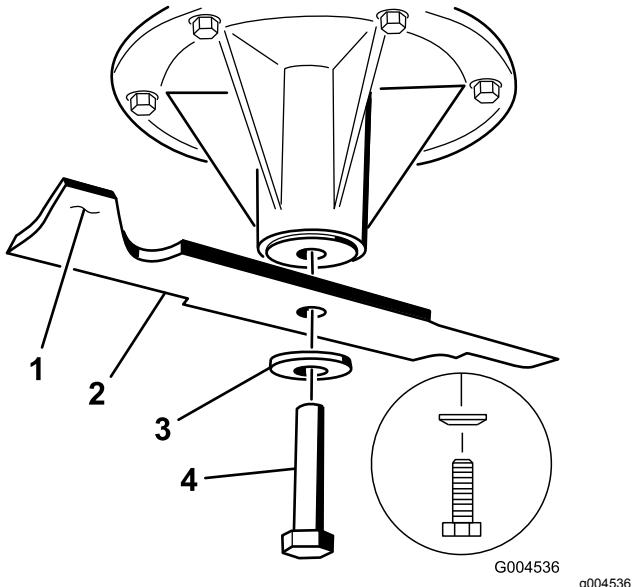

Figure 108
- Install the blade onto the spindle shaft (Figure 108).
- Install the spring disk and blade bolt (Figure 108).